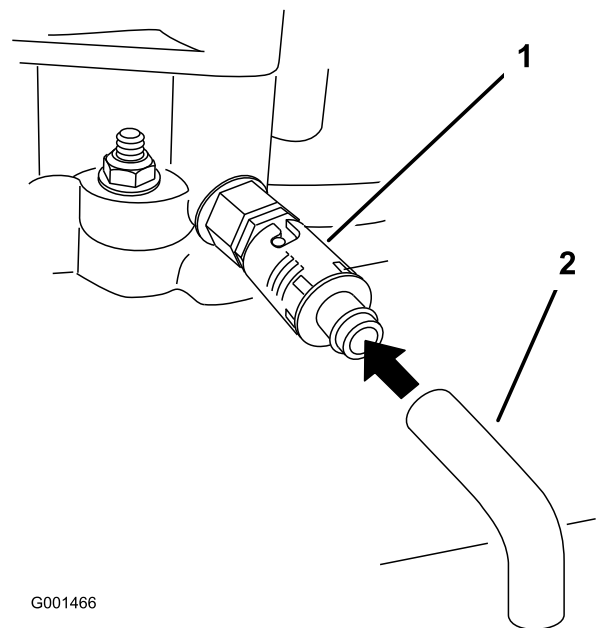

Figure 31
6. Rotate the oil-drain valve to allow the oil to drain (Figure 31).
8. Remove the drain hose (Figure 31).